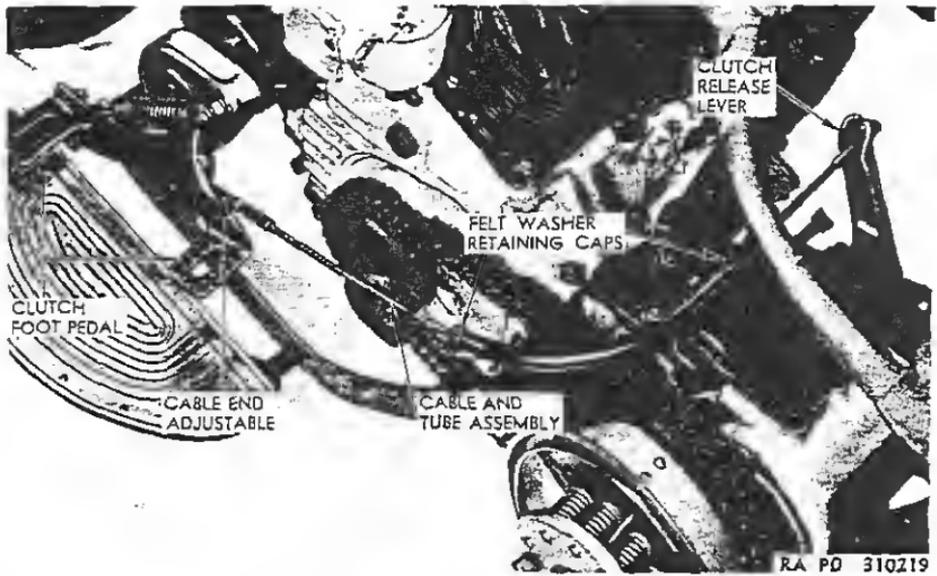

Figure 22—Clutch Control Linkage
48. MAINTENANCE AND ADJUSTMENT (figs. 22, 23, 24, and 25).
b. Clutch Control Linkage (fig. 22). Operation of foot pedal, control cable, and clutch release lever actuates the push rod through hollow transmission shaft, disengaging or engaging clutch at will. Correct adjustment to control cable and release lever must be made before push rod adjustment is made.